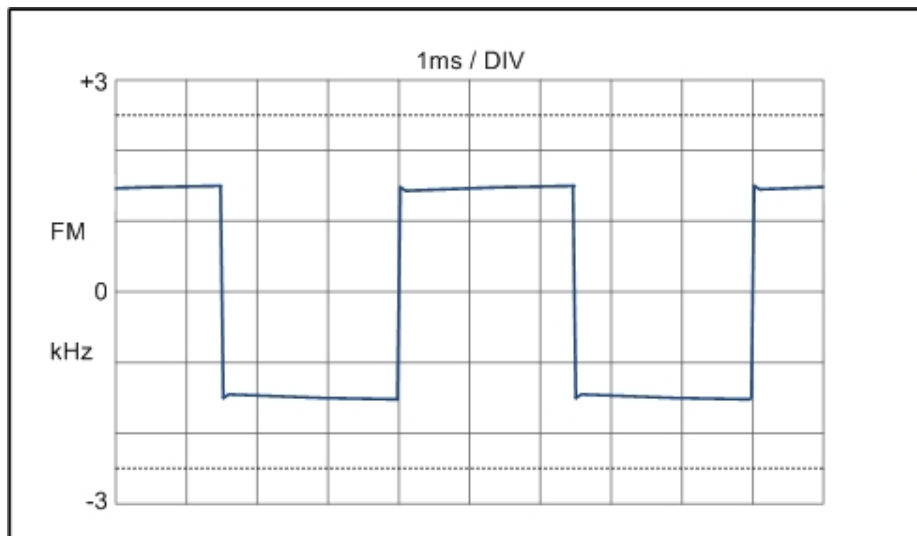

Figure 13. Typical result for Tx Modulation displayed on RTS.
31. On the MxTools Channel Edit screen, adjust the 'Ref Osc Level (LF Audio)' digital potentiometer so that the top and bottom of the 200 Hz square wave displayed on the RTS is as flat as possible (see **Figure 13** overleaf).